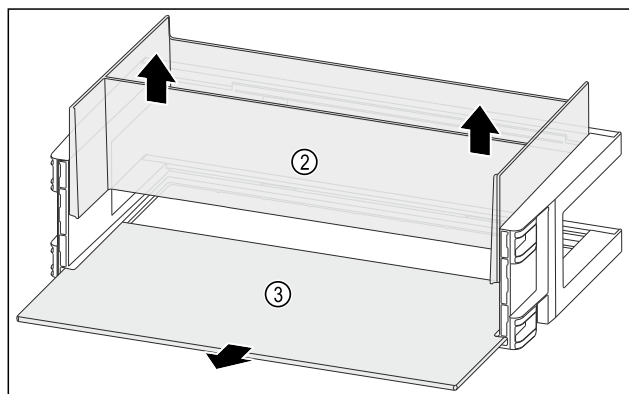

Fig. 141
- ▶ Izvadite organizator Fig. 141 (2) prema gore.
- ▶ Izvadite policu Fig. 141 (3).